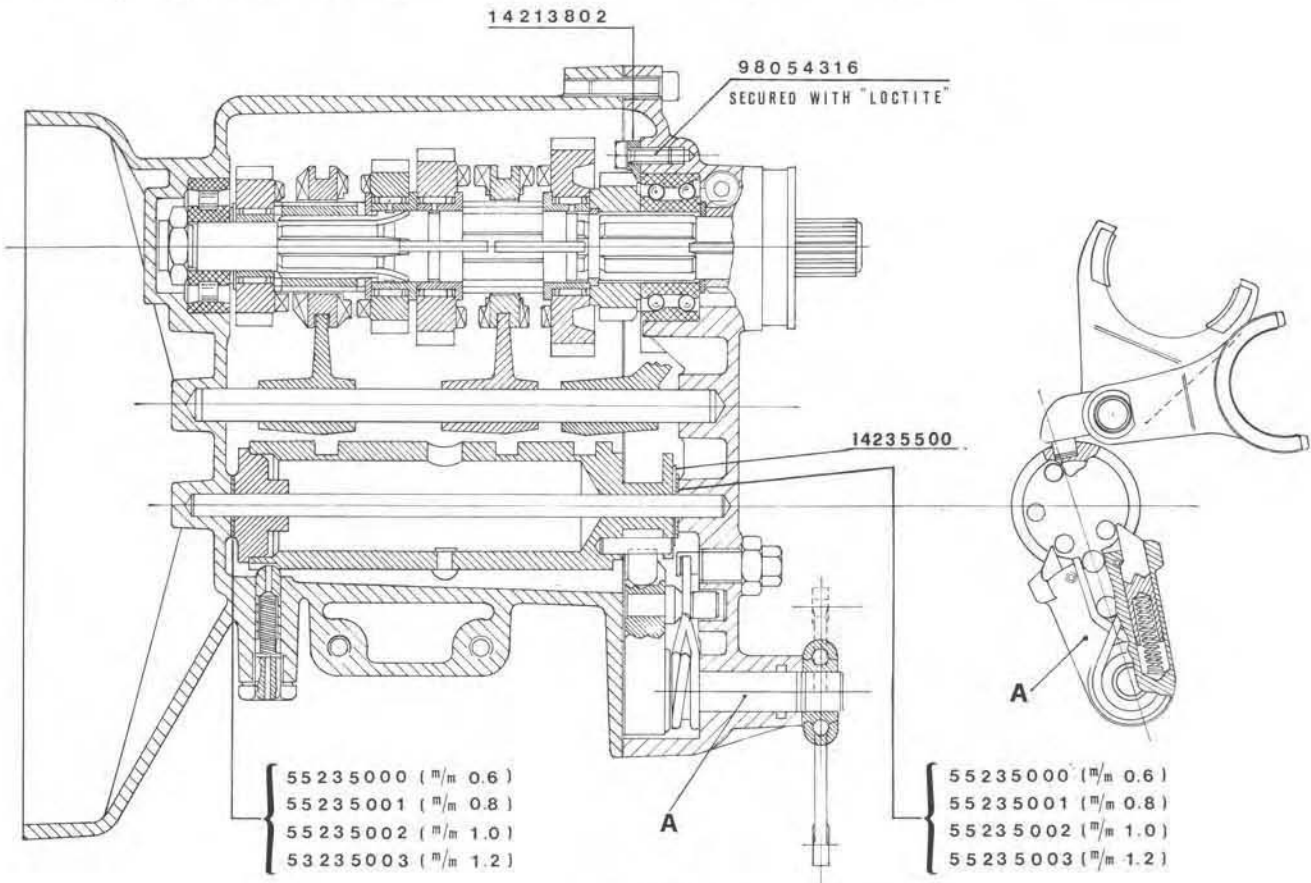

Fig. 86/16
- Fit the fork tip in the drum grooves. To position these in the grooves use special tool part n. 14929300 (41 in fig. 86/13). Fit the peg in the gearbox drilling, spring, and plug screwing it on provisionally. Insert the fork retaining rod into the fork holes. Assemble the neutral indicator unit on the gearbox ensuring that the blade contacts the button on the drum. Secure this indicator to the gearbox with screws and washers.